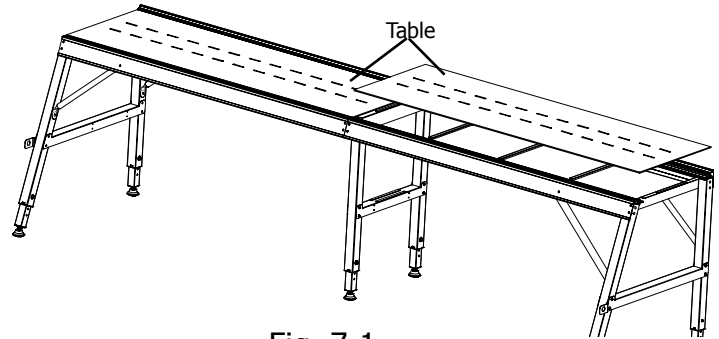

Fig. 7-1
**7-1:** Lay the Plastic Table on the Table Supports, **with the textured surface side UP**, as shown in Fig. 7-1.